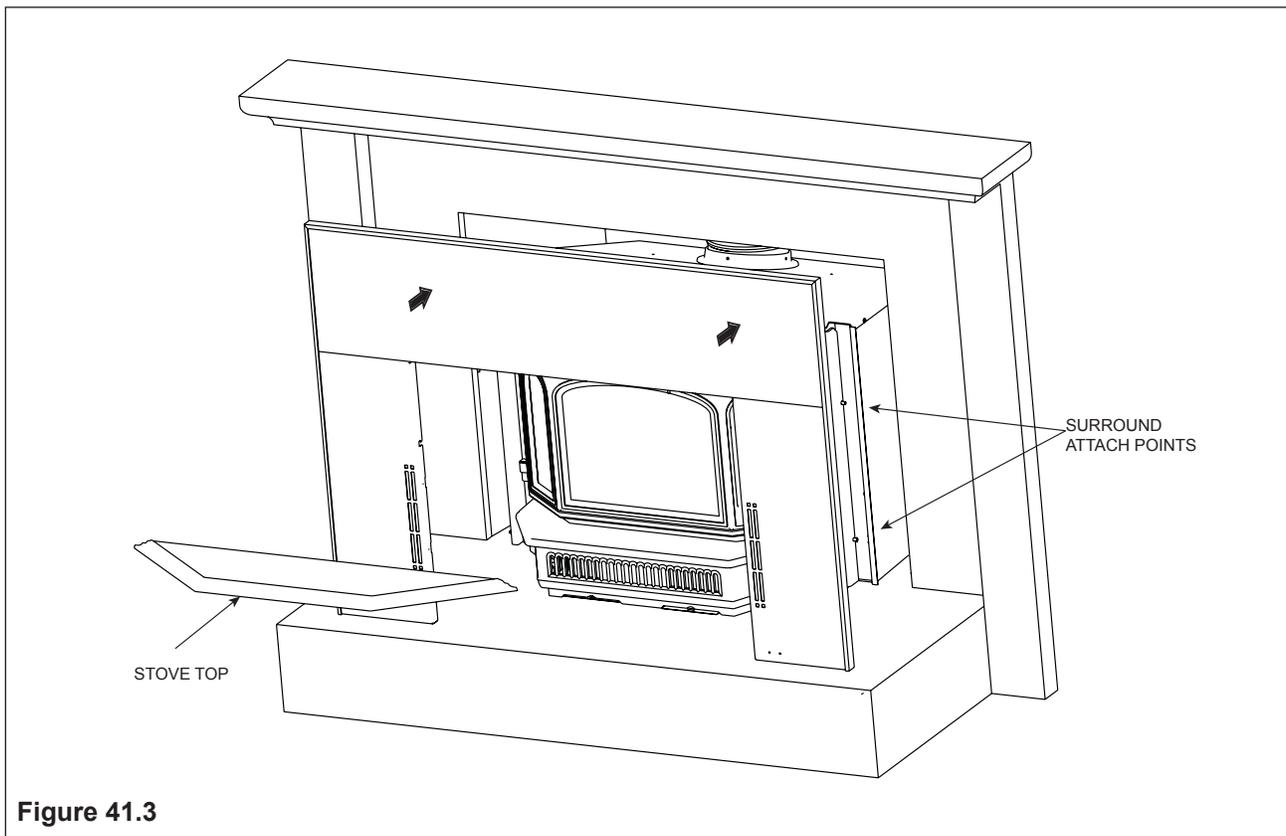

Figure 41.3
6. Install the surround set and trim set to the outer can. Place the hook in the surround sides over the surround attachment studs, 2 on each side. **Figure 41.3.**